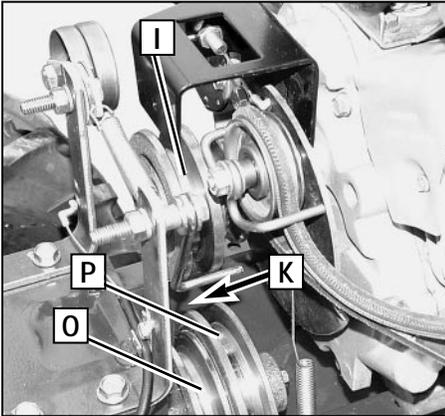

Figure 5-18: Arrow (K) shows insertion point for installing new forward clutch belt.
- From the front of tiller, insert the forward clutch belt in between the bottom of the engine drive pulley (I, Figure 5-18) and the top of transmission pulley (K).